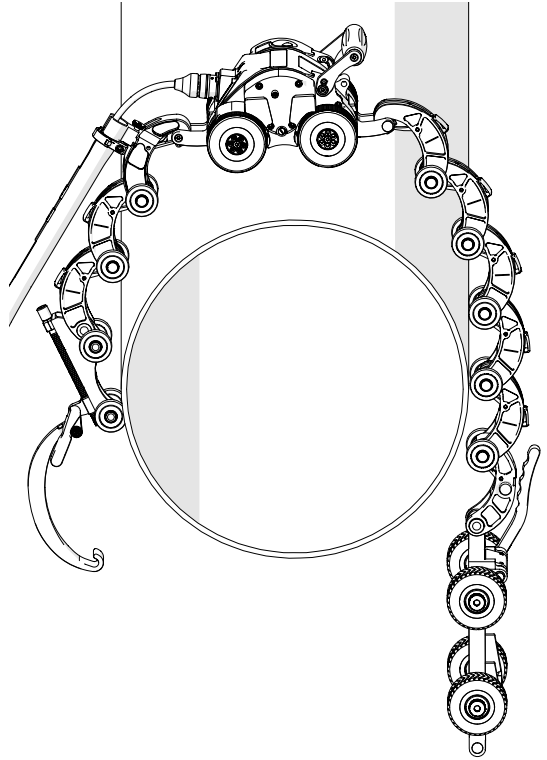

Fig. 72 - Place system on pipe/tube
8. Drape the configured system around the pipe/tube to be inspected (Fig. 72).